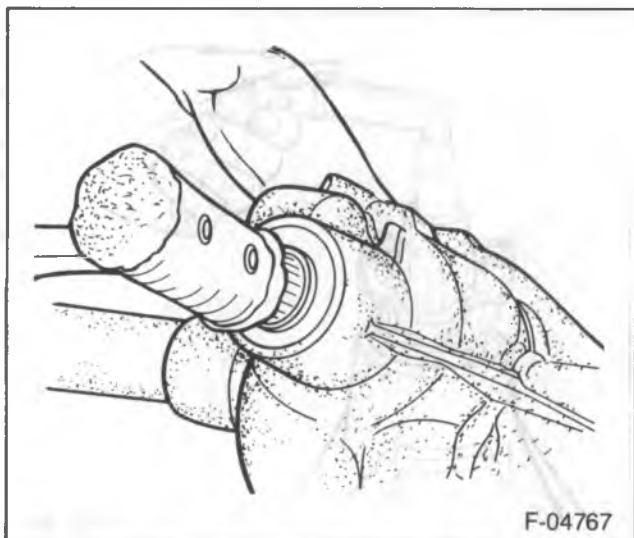
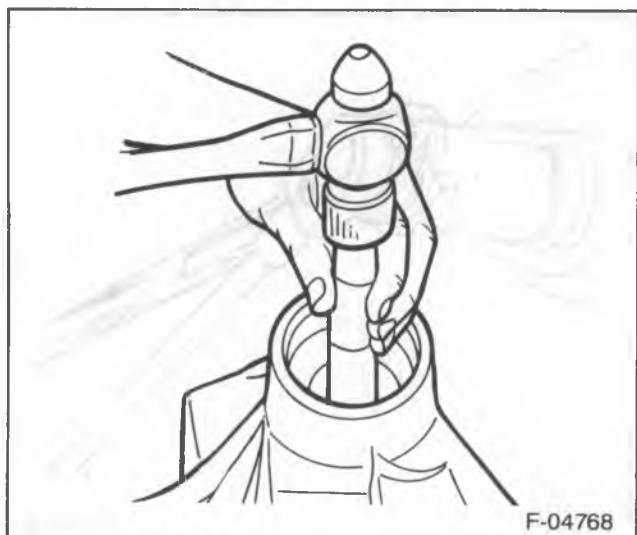
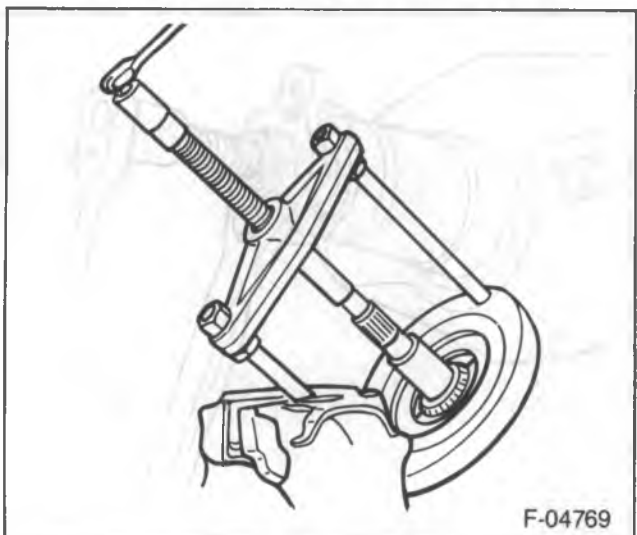

Figure 14—Removing the Pinion
Figure 15—Removing the Bearing Cups
Figure 16—Removing the Pinion Inner Bearing
18. Pinion (2) from the carrier using a rawhide hammer to tap the pinion (figure 14).
19. Carrier cover (14) and the pinion (2).
20. Pinion preload shims (6).
21. Pinion seal (9).
22. Pinion outer bearing (7) and oil slinger (8).
23. Bearing cups (3) and (7) from the axle housing using a hammer or a punch (figure 15).
24. Pinion adjusting shims (4) and baffle (5).
25. Pinion inner bearing (3) using J 29721 and J 29721-70 (figure 16).